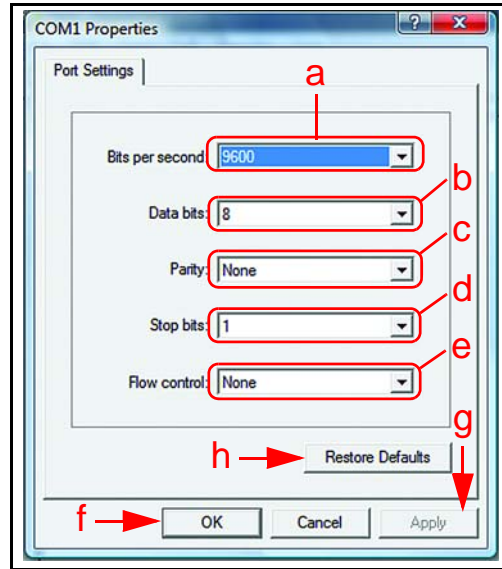

Figure 7 HyperTerminal COM 1 Properties Port Settings Screen
The next HyperTerminal Communication “**COM’X’ Properties**” Screen shown in Figure 7 will appear when the COM Port is selected. Verify that the default values displayed in Figure 7a through Figure 7e are as follows:
Screen Button (See Figure 7 f) to record the selections, and proceed to the next Screen that appears.
Screen Button (See Figure 7 g) to record the changes, and then click on the “**OK**”  Screen Button to proceed to the next Screen that appears.
**NOTE:** If erroneous entries are suspected, click the **Restore Defaults** screen button to restore default values (See Figure 7 h).